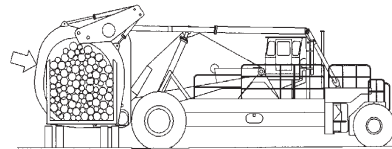

Fig. 5-7
4. Securely clamp both holddown arms before the binder chains are removed. See Fig. 5-7.